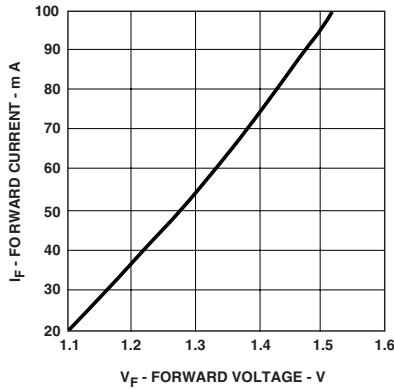

Figure 3. Typical forward voltage and current characteristics
7. Optical rise and fall times are measured from 10% to 90% with 62.5/125  $\mu\text{m}$  fiber. LED response time with recommended test circuit (Figure 3) at 25 MHz, 50% duty cycle.